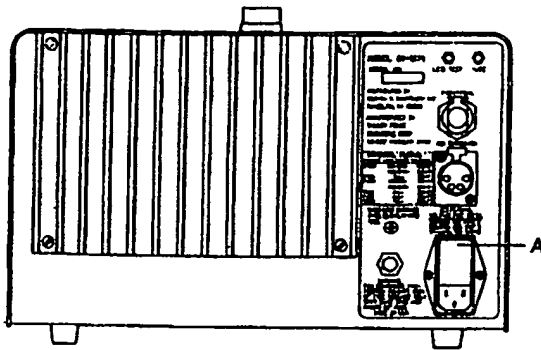
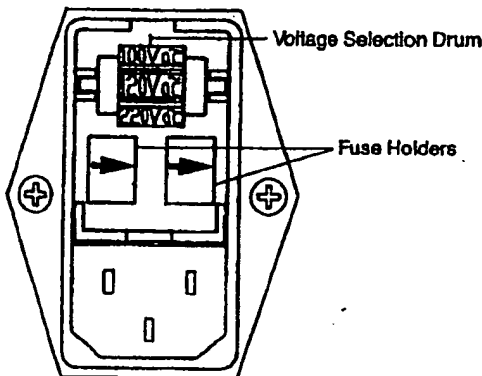

Figure 8.
Figure 8A.
3. Look at the power receptacle and verify that the appropriate supply voltage setting is shown in the window. If you must change the setting, use a tool, such as a screwdriver to pry down the top edge of the panel (A in Figure 8). Using a fingernail or screwdriver, gently pull the two fuse holders out and completely remove them, then pry out the voltage selection drum (Figure 8a). Turn the drum and reinsert so the appropriate power setting will appear in the window. Reinsert the fuse holders so the arrows match the arrows on the inside of the panel. Snap the panel back into position.